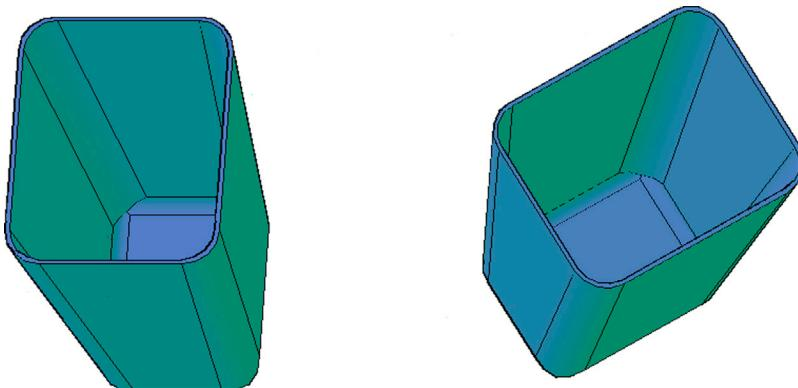

FIGURE 24.21 Wastebasket, Step 4.
Step 4. Shell the wastebasket to a $0.35''$ thickness, as seen in Fig. 24.21.